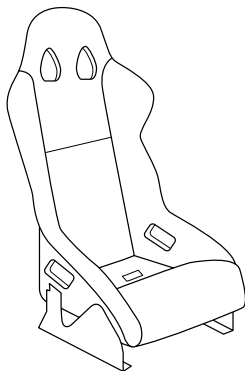

Figure 4-9:
- ✓ Rigid-shell seats (as shown in Figure 4-9) made of such materials as fiberglass, aluminum, carbon fiber, carbon/Kevlar, or some similar material